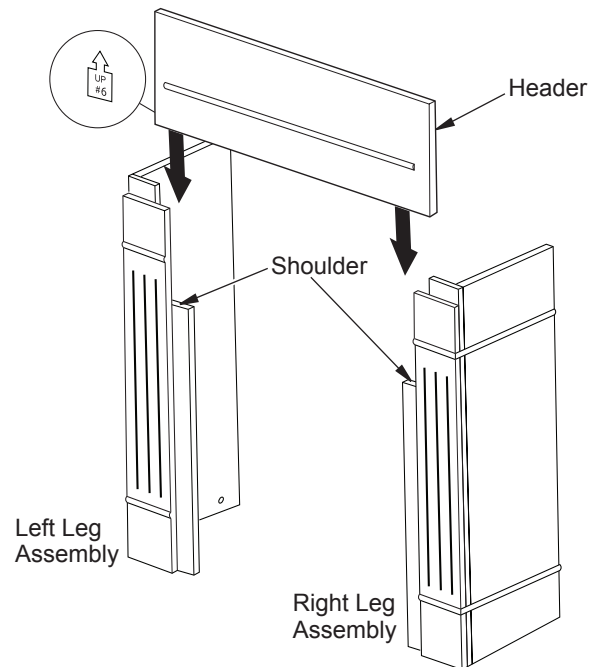
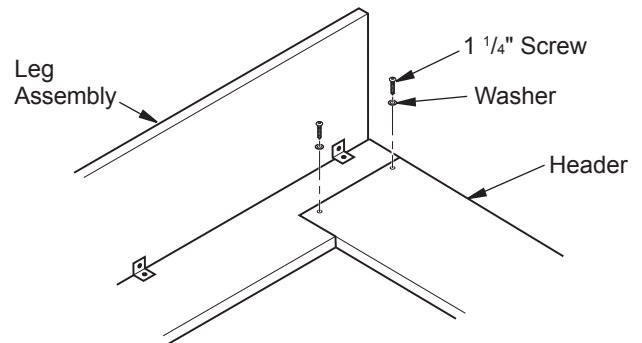

Figure 3 - Installing Header
Figure 4 - Attaching Header to Leg Assembly
3. You may prefer to lay mantel face down on a soft surface instead of upright to position header. Position header (#6) between leg assemblies with direction arrow pointing up (see Figure 3). Attach header with 1 1/4" screws and washers (see Figure 4).